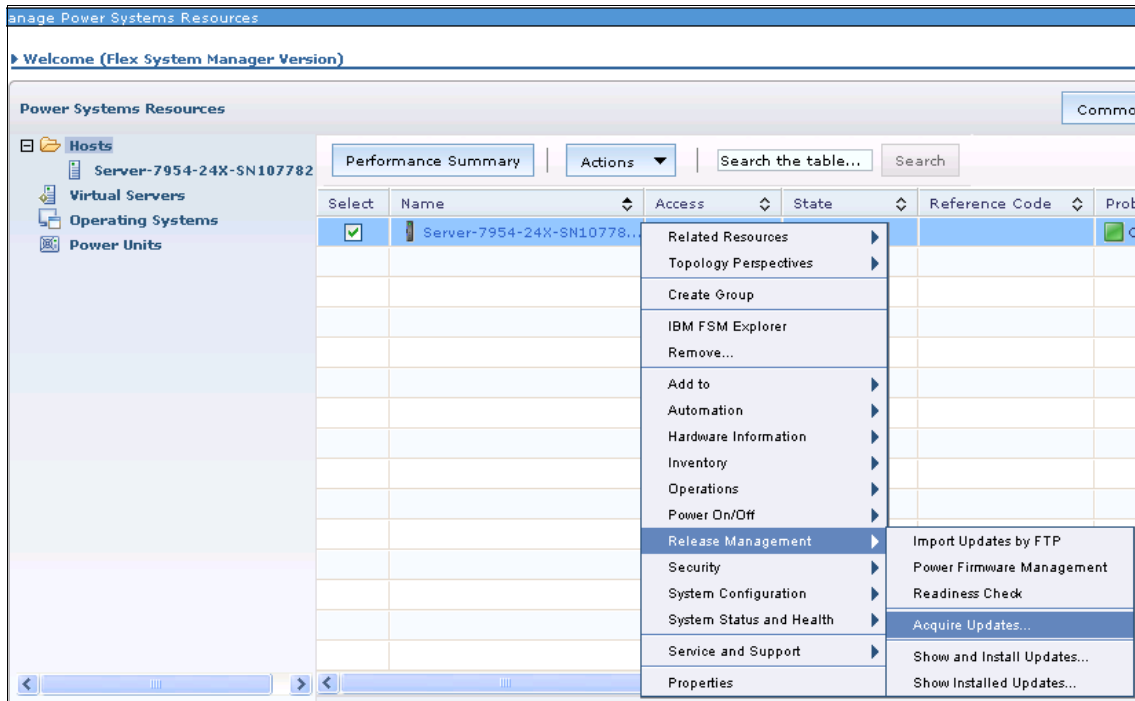

Figure 7-64 Acquiring firmware update for Power compute node
1. From the Hosts view, right-click the wanted server to be updated (as shown in Figure 7-64 on page 249), and select **Release Management** → **Acquire Updates** to start the Acquire Updates wizard.